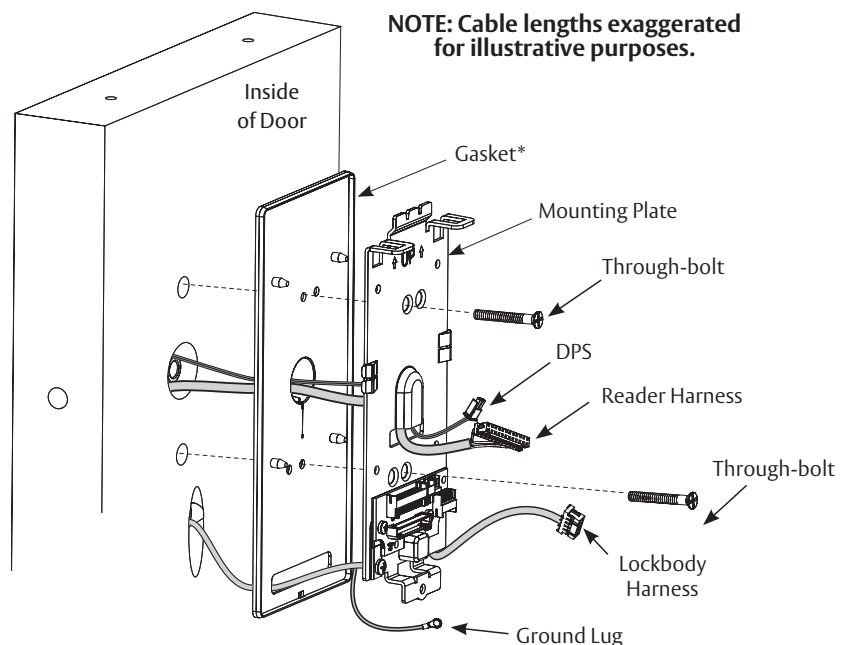

Fig. 2
- d. Feed reader harness and DPS connectors through inside mounting assembly and gasket if required*. (Fig. 2)
- e. Secure mounting assembly while ensuring proper alignment of outside reader and tighten two (2) through-bolts on inside of door to secure reader. (Fig. 2)
- If installing with gasket, separate gasket from mounting plate to feed cables/connectors through holes as indicated (Fig. 2)